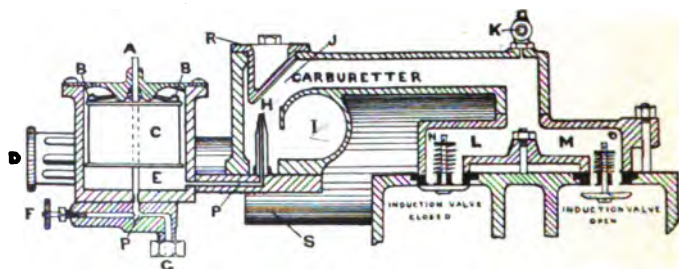

Fig. 11.—The Daimler Carburetter
(3) *The Spray Carburetter.*—The carburetter fitted to the Daimler two-cylinder engine is a good representative of this class. It is depicted in fig. 11. The general principle is as follows: The petrol enters the float chamber E through a pipe G. It is then drawn by the suction of the engine along a circular passage, and through the jet H, and impinges against the sloping sides of the carburetter. At the same time air is drawn though the air cylinder D and into the jet chamber through